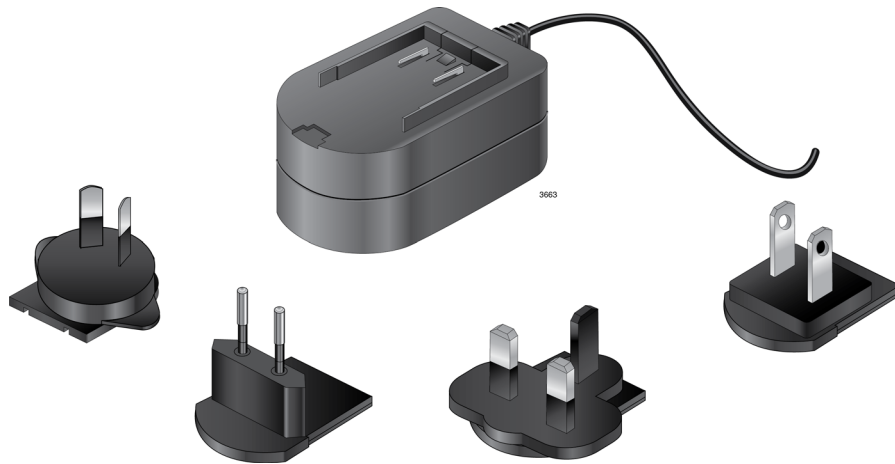

Figure 37. Package Contents
1. Ensure that the Multi-region AC/DC Power Adapter package contents include one power adapter and one or more of the plugs shown in Figure 37.